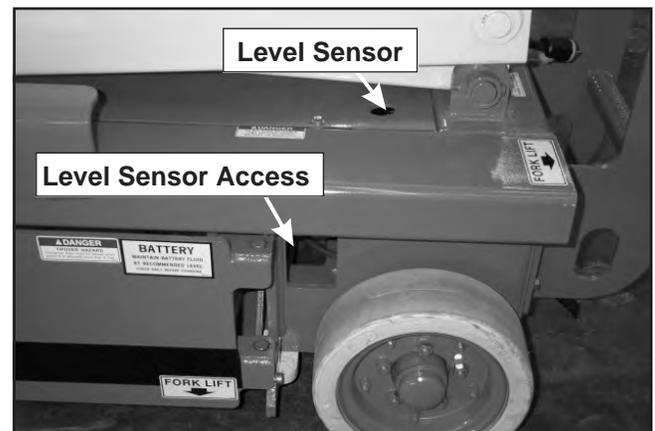

Figure 8.14—Left Rear of Chassis
3. From the lower controls, raise the platform to access the level sensor at the rear of the chassis (refer to Figure 8.14).